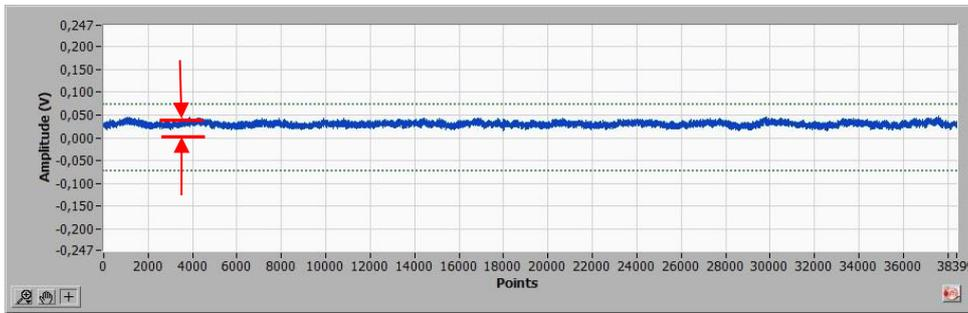

Figure 33 - Graph for the visualization of the signal, indicating an offset of approximately “+0,023 Volt”.
Sonelastic® Software may request offset adjustment on the amplitude scale. This adjustment is necessary for the acoustic response to be acquired without a DC level (Fig. 33).
*Step 01* – Click on the “Test” button and the blue line (regarding the signal) will activate and continuously updated. Verify if the signal average value coincides with the x-axis ( $y = 0.000$ ). Fig. 33 shows an example in which the blue line does not coincide with the x-axis, being necessary an *offset* correction.